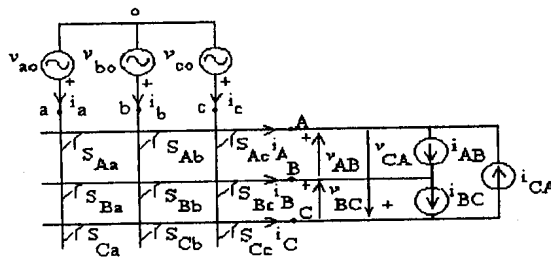

Fig. 1
- (b) A matrix converter schematic is shown in Fig. 1. A particular switching state is shown in the Table-1. Assuming sinusoidal input voltages and sinusoidal output currents, find the output line voltage space vector and input line current space vector for the switching combination. Comment whether these space vectors can be utilized in SVPWM generation of switching pulses.